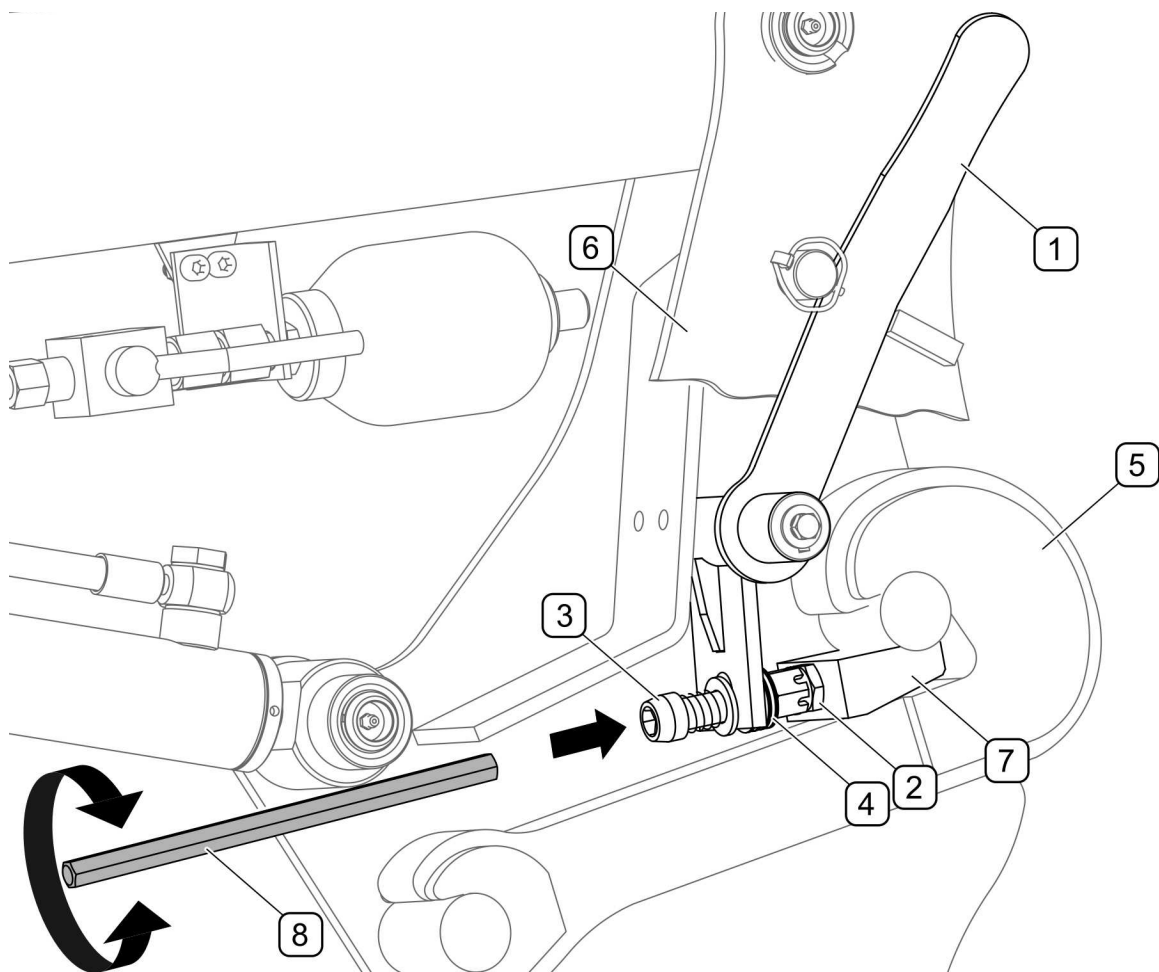

FIGURE 5.2. Quick coupler locks adjustment
If, after aggregating the boom on the supporting structure, you feel any play in the lever (1) in the closed position, you should proceed to adjusting the locks (FIGURE 5.2). Carry out the inspection and adjustment for both locks with the jib hanging on the carrying frame. A special key (8) should be used for adjustment.